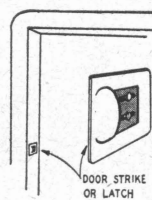

Fig. 43
**Remedy:** a. Adjust the door latch. Fig. 43. On some models this may require a serviceman.
*Remedy:* Adjust door latch or replace rubber gasket, if worn. Fig. 43 or 44.